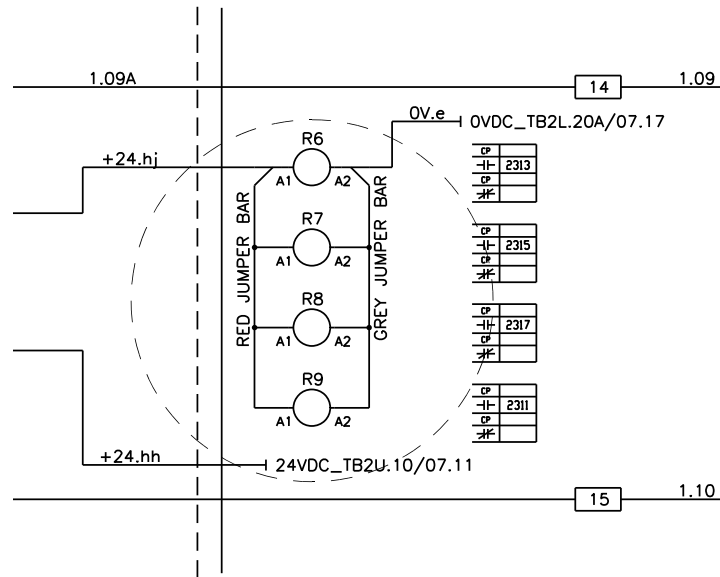

Figure 8: Detail BB: Coil Component of New Relays R6, R7, R8, R9
- Attach the red jumper bar (Canrig Part No. E16020) across the A1 terminals of the relays (R6, R7, R8, R9), and the gray jumper relay (Canrig Part No. E11904) across the A2 terminals (Figure 8, page 9).
- Use black 18 AWG cable (Canrig Part No. E13661) to connect the A2 terminals to the 0VDC terminal block in the PLC panel (Figure 8, page 9, 0V.e).